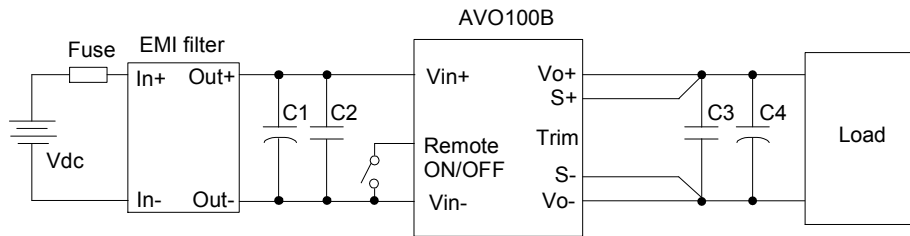

Figure 11 Typical application
Figure 4 Dynamic response for 25% load step (50% ~ 75% ~ 50%) and 0.1A/ $\mu$ s slew rate, (2ms/div), see Figure 11 for test configuration; CH1-output voltage (50mV/div); CH2-output current (10A/div)
Figure 5 Dynamic response for 25% load step (50% ~ 75% ~ 50%) and 1A/ $\mu$ s slew rate, (2ms/div), see Figure 11 for test configuration; CH1-output voltage (200mV/div); CH2-output current (10A/div)
If the load is far from the unit, connect S+ and S- to the terminal of the load respectively to compensate the voltage drop on the transmission line. See Figure 11.
C1 ~ C4: See Figure 11
- C1 ~ C4: See Figure 11